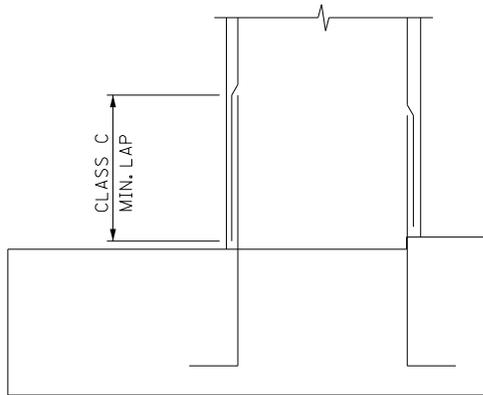

Figure 2
2. Laps between dowel bars and vertical bars should be shown on the plans rather than the projection from the top of the footing. The lap should be shown from the end of the vertical bar rather than the top of the concrete. (See Figure 2.)
3. Vertical bars in abutments, wingwalls, retaining walls, and other similar situations should be drafted to show the bars ending above the top of the footing. (See Figure 2.) This provides visual clarity for the drawing, but does not necessarily reflect how the bar will be placed during construction.